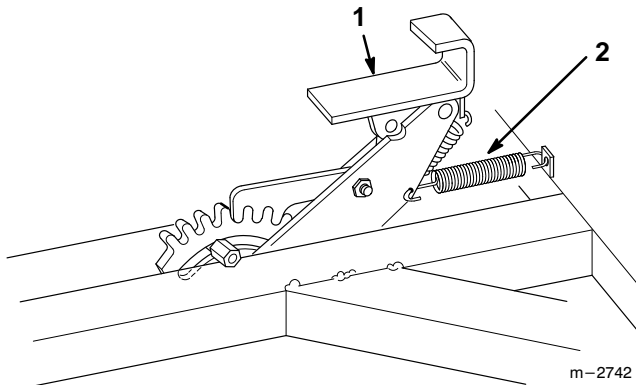

Figure 3
5. Push attachment lift pedal all the way forward, remove pedal spring and move foot pedal all the way back (Fig. 3).
7. Lift up on rear of mower and install (2) 3/8"-2-1/4" (57 mm) clevis pins in top holes of rear mower brackets. Secure with (2) hairpin cotters.
8. Push attachment lift pedal all the way forward and install pedal spring (Fig. 3).